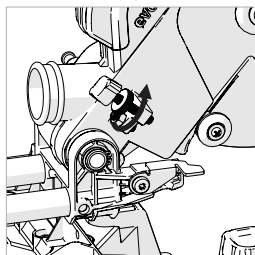

Fig. 26b
- Loosen the knurled locking nut. **(Fig. 26b)**
- Once set to the desired depth, tighten the knurled locking nut **(Fig. 26b)** against the retaining bracket to lock the depth stop and ensure that there is no movement.